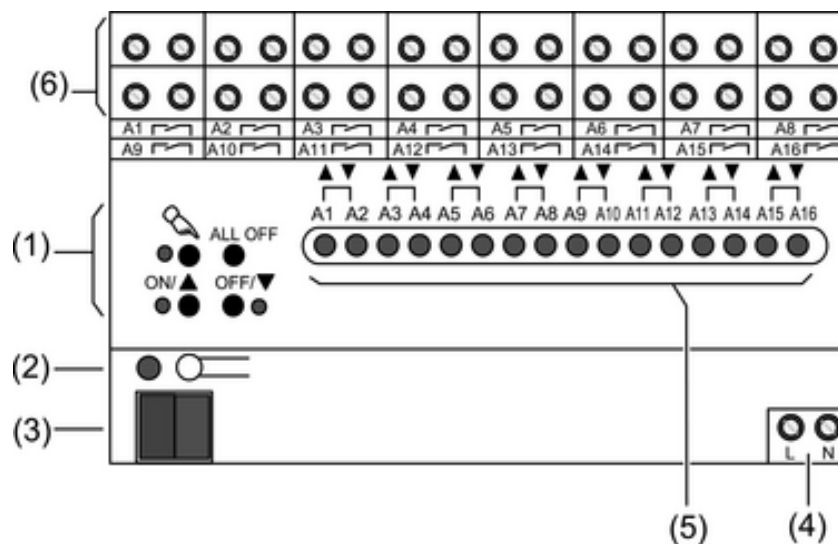

Figure 1
The status LED **A1...** (5) indicate the states of the outputs (figure 1).